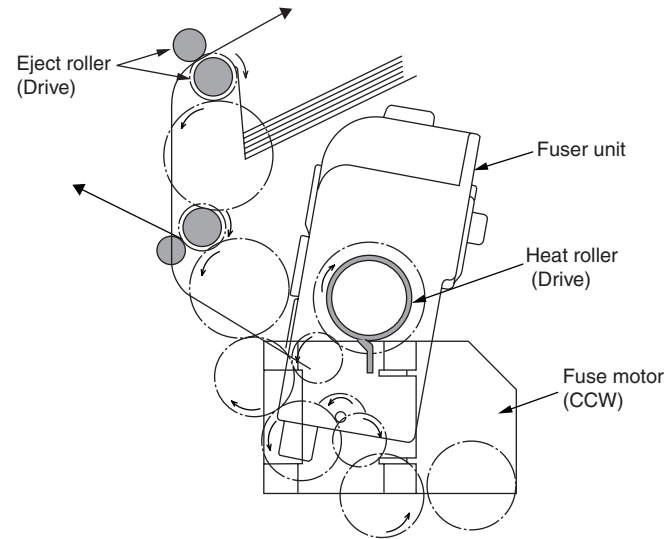

Figure 2-8
1. The fuse unit and the delivery roller are driven by the DC motor as shown in Fig. 2-8. When the fuse motor is rotated (counter clockwise), the heat roller will begin to rotate. The heat roller makes the toner image fused to the paper by heat and pressure.